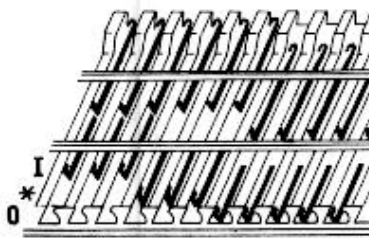
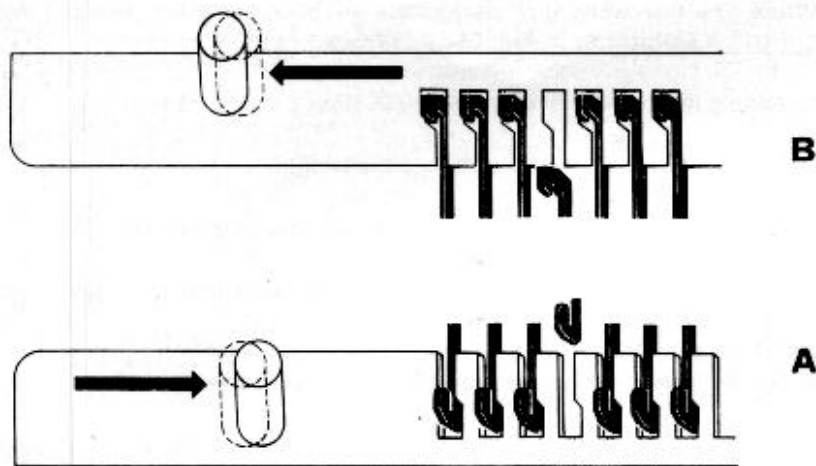

Fig. 32
Fig. 33
There are three basic pusher positions, Fig. 32
0 = Neutral Position. The foot of the pusher is within the blocking rail. Pusher completely out of action (position of pushers when machine is leaving the factory), Fig. 32. For taking pushers out of the blocking rail see page 12, Fig. 33.
* = Rest Position, the foot of the pusher is out of the blocking rail and is resting on it. When the pusher is in Rest Position, the corresponding latch needle does **not** knit when patterning is done, but may receive loops. Fig. 32.
I = Working Position, the foot of the pusher is out of the blocking rail in the lower third of the pusher bed. Only when the pusher is in Working Position does the corresponding latch needle knit normally, Fig. 32.
Front bed: push button of blocking rail to the **right** and hold it, then advance pusher and release button, Fig. 33 below.
Back bed: push button of blocking rail to the **left** and hold it, then advance pusher and release button, Fig. 33 above.